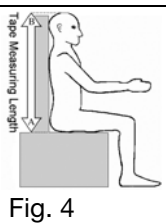

Fig. 4
- Ideally, the resident should be in a seated position (See Fig. 4).